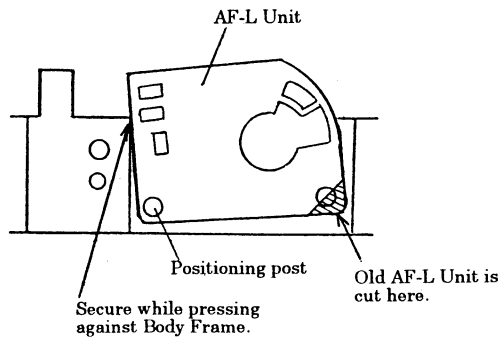

Fig.36
- * In the camera at the early stage of production, as a tentative measure, the AF-L Unit (1AA52400) is cut and secured by pressing it against the Body Frame as shown in Fig. 36. As the permanent measure, the pattern is modified. The pattern is widened so that the AF-L Unit is not cut nor pressed against the Body Frame at fixing.